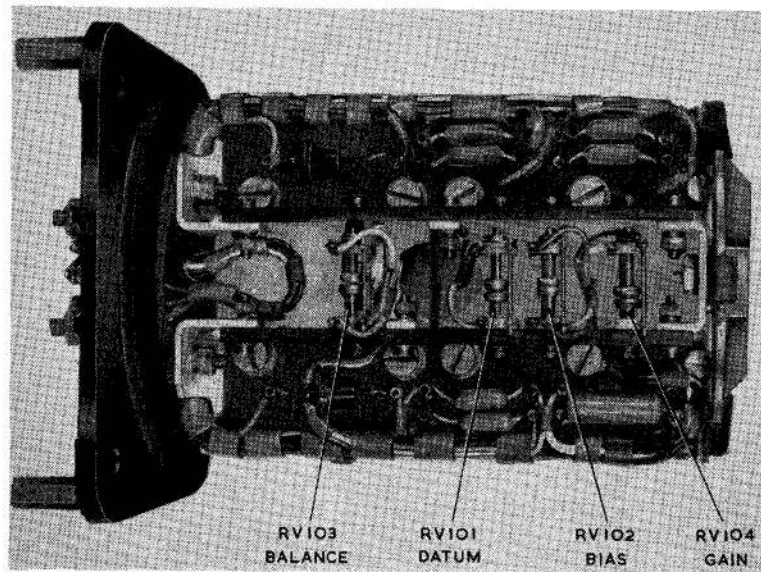
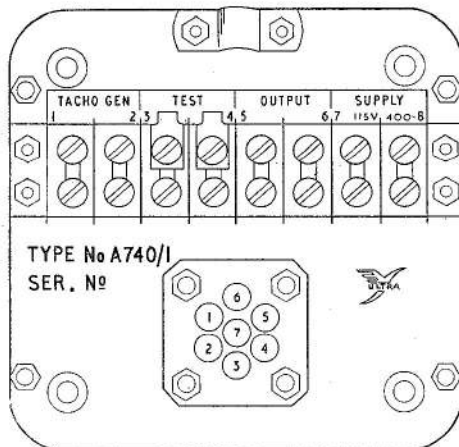

Fig. 2. Internal view, showing preset controls
Fig. 4. Terminal identification diagram
4. All the leads are brought through the base-plate via seven moisture-proof seals, and are taken to an eight-way terminal block illustrated in fig. 4. The side of the base-plate carrying the terminal block is enclosed by a removable protective cover. The unit is mounted by means of two mounting clamp assemblies which fit over the barrel of the casing. The assembly and wiring layout of the unit is shown in fig. 2.
6. The preset controls (*fig. 2*) which are provided within the scoop signalling unit are:
10. The terminal block connections (fig. 4) are as follows: